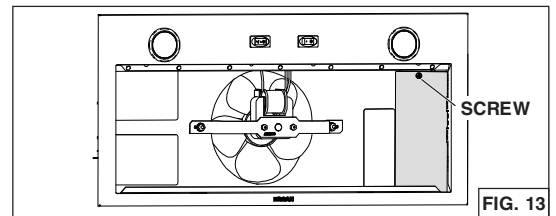

FIG. 13
3. Disassemble the wiring compartment cover (grey part in FIG. 13) from inside the unit by removing its retaining screw. Remove the parts bag behind the cover. Set aside the parts bag and the cover along with its screw.